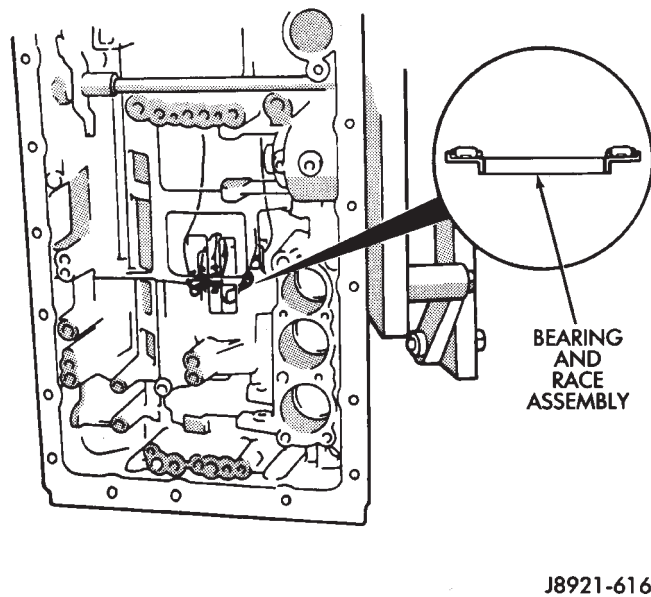

Fig. 120 Removing/Installing Bearing And Race Assembly
(55) Remove planetary and brake drum thrust bearing and race assembly (Fig. 120).